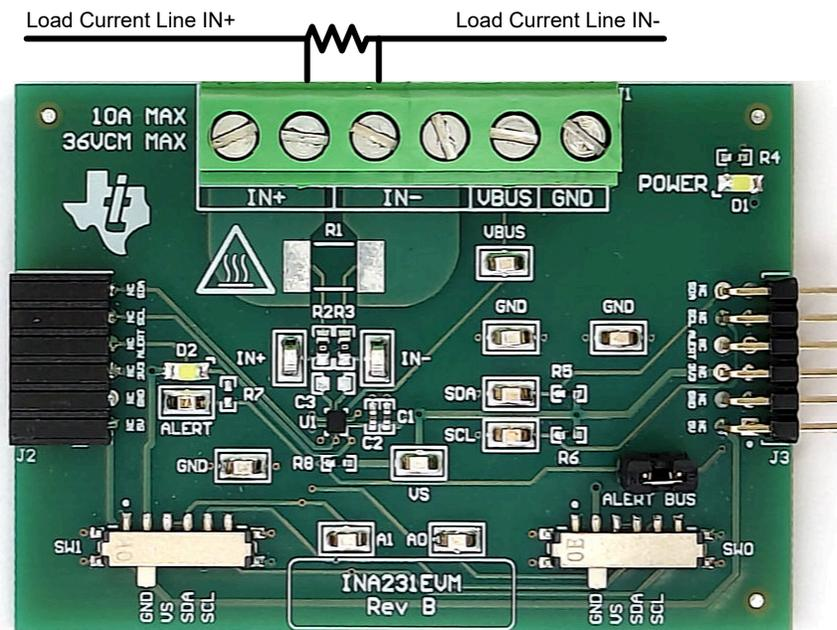
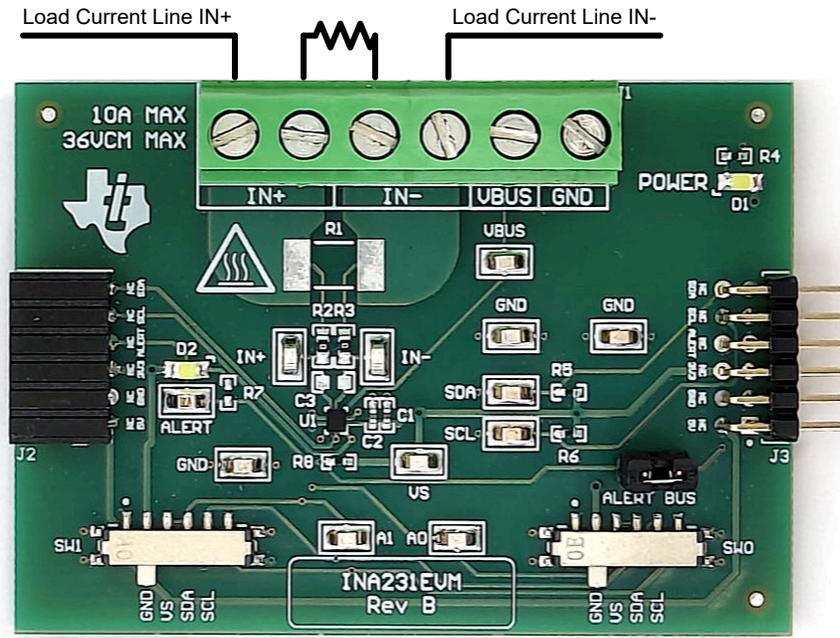

Figure 2-3. IN+ and IN- Wiring for More Than 10A
Figure 2-4. IN+ and IN- Wiring for 10A or Less
- b. Connect an external shunt across the IN+ and IN- terminals of J1, preferably across pins 4 and 5, as shown in Figure 2-3 and Figure 2-4.
- a. When measuring more than 10 A, make sure the high current path does not go through the EVM (including the terminal block J1), as shown in Figure 2-3.
- b. When using 10A or less with either an onboard or external shunt, the current path can be passed through the EVM. Figure 2-4 shows a convenient way to use the multiple IN+ and IN- terminals with an external shunt for this use case.